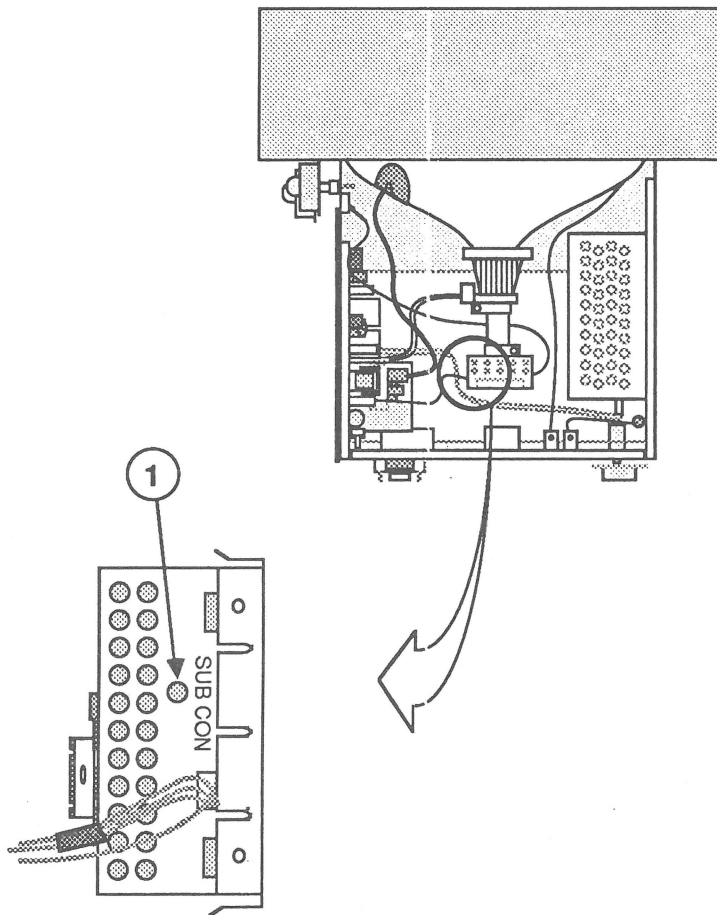

FIGURE 5
3. Locate the SUBCONTRAST control (Figure 5, #1) on the side of the video board case. Using the two-inch plastic screwdriver, set the SUBCONTRAST control midway between its high and low stops.
7. Using the light meter and the two-inch plastic screwdriver, adjust the SUBCONTRAST control (Figure 5, #1) until the light meter reads in the middle of the "10" scale (33 ft lamberts).